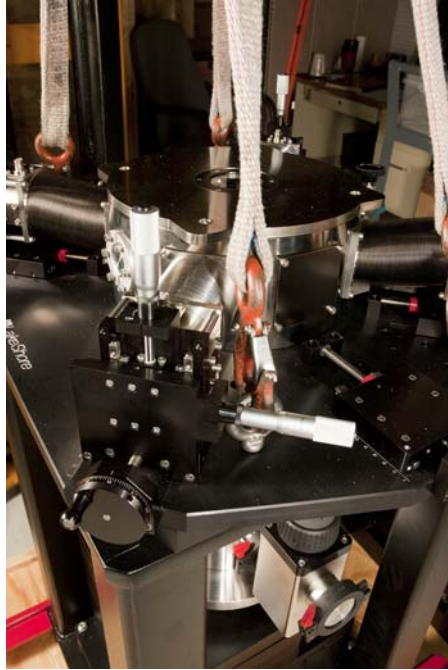

FIGURE 3-3 Use lifting equipment if the probe station must be moved after it is uncrated
The Model CRX-6.5K has four lifting eyelets attached to the probe station table for lifting the probe station off the crate base (FIGURE 3-3).
6. Using lifting equipment, lift the probe station off the crate base (FIGURE 3-3).